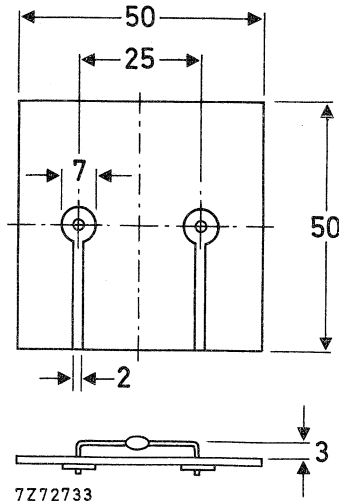

Fig. 2 Device mounted on a printed-circuit board.
2. Thermal resistance from junction to ambient; device mounted on a 1.5 mm thick epoxy-glass pc board; Cu-thickness  $\geq 40\text{ }\mu\text{m}$ ; Fig. 2 (see "Thermal Model")